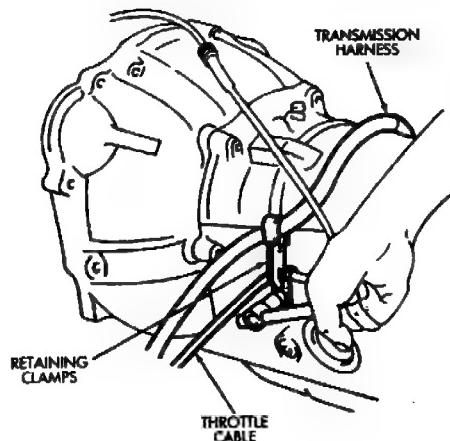
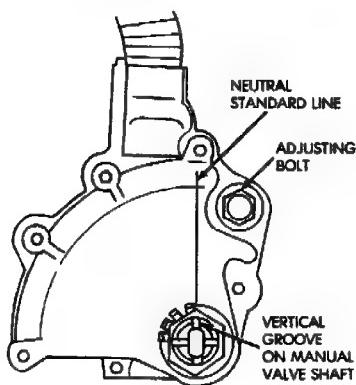

Fig. 70 Installing Cable/Harness Clamps
Fig. 69 Neutral Switch Installation/Adjustment
(93) Install transmission shift control lever on manual valve shaft. Do not install the lever attaching nut at this time.
(94) Move shift control lever all the way to rear. Then move it two detent positions forward.
(95) Mount neutral safety switch on manual valve shaft and tighten switch adjusting bolt just enough to keep switch from moving (Fig. 69).
(96) Install neutral switch tabbed washer and retaining nut (Fig. 69). Tighten nut to 6.9 N·m (61 in-lbs) torque, but do not bend any of the washer tabs against the nut at this time.
(97) Align neutral switch standard line with groove or flat on manual shaft (Fig. 69).
(98) Tighten neutral switch adjusting bolt to 13 N·m (9 ft-lbs) torque.
(99) Install shift control lever on manual valve shaft. Tighten lever attaching nut to 16 N·m (12 ft-lbs) torque.
(100) Install retaining clamp for wire harness and throttle cable (Fig. 70).